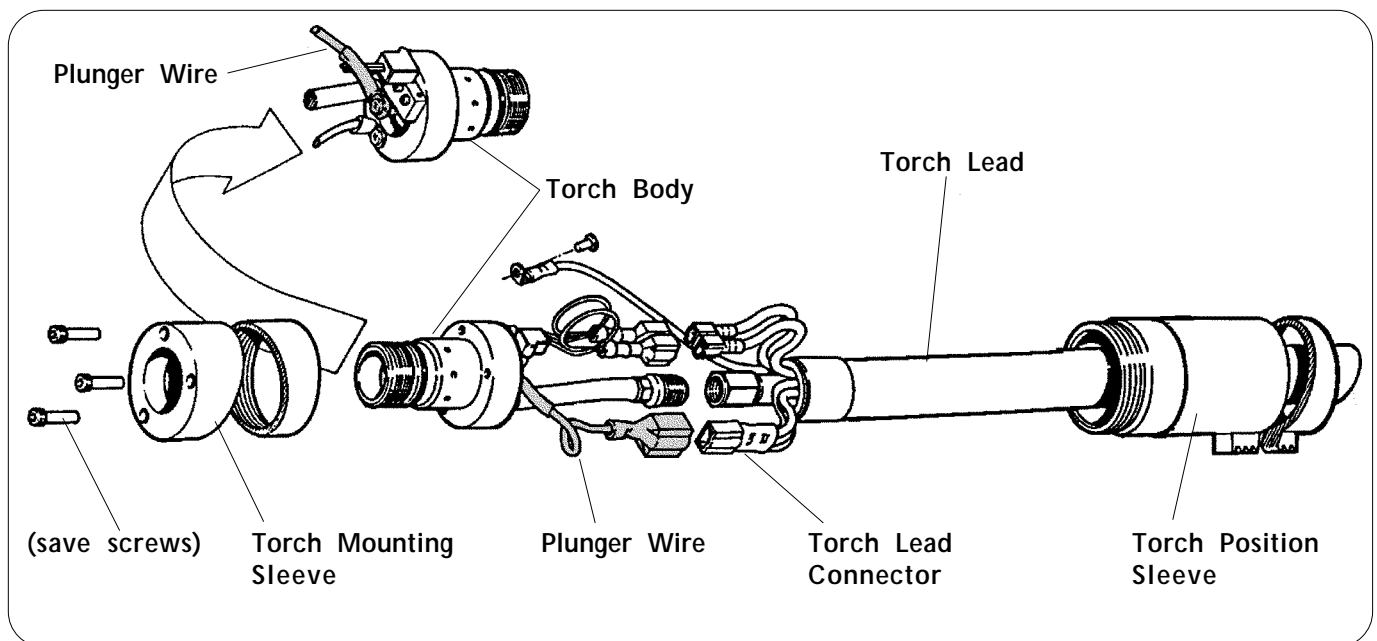

Figure 1 PAC121M/40cs Plunger Wire - Remove/Install
## TORCH LEAD PLUNGER WIRE - REMOVE (FIGURE 1)
## TORCH LEAD PLUNGER WIRE - INSTALL (FIGURE 1 AND 2)
7. Attach the torch mounting sleeve to the torch body with the 3 screws (Figure 1). Torque to 7 in. lb.